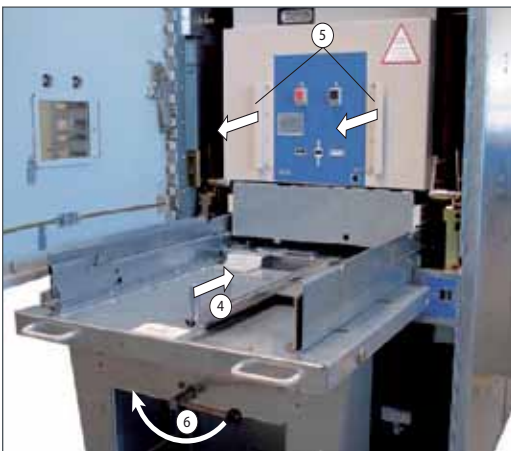

Fig. 4.10
- Push unlocking bar (Fig. 4.10, 4) forward to its stop. The latching of the truck in the panel is released.
- Pull truck onto the trolley via the two handles (5) until it snaps in on the trolley audibly.
- Turn lever back to the left (6). The trolley is lifted on the front, and removed from the panel.
- Pull trolley with the truck away from the panel (7) and turn lever back to the right to lower it (8).